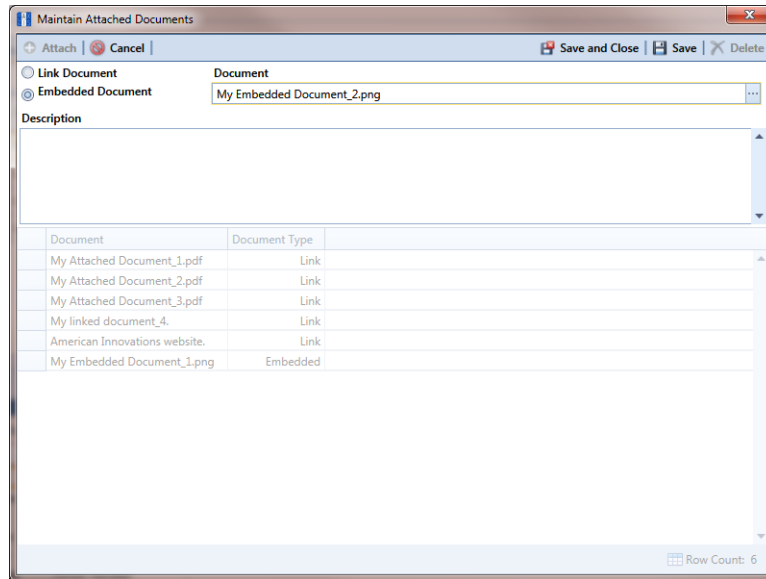

Figure 7-105. Maintain Attached Documents
- 9 If you selected *Embedded Document* in step 6, complete the following steps (Figure 7-105):